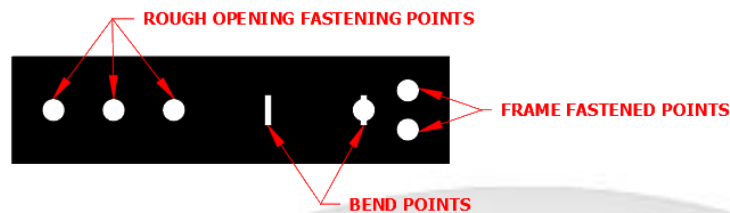

Figure 19: Unbent Steel Strap
- II) Steel straps will be delivered unbent and attached to the frame as shown in Figure 19.